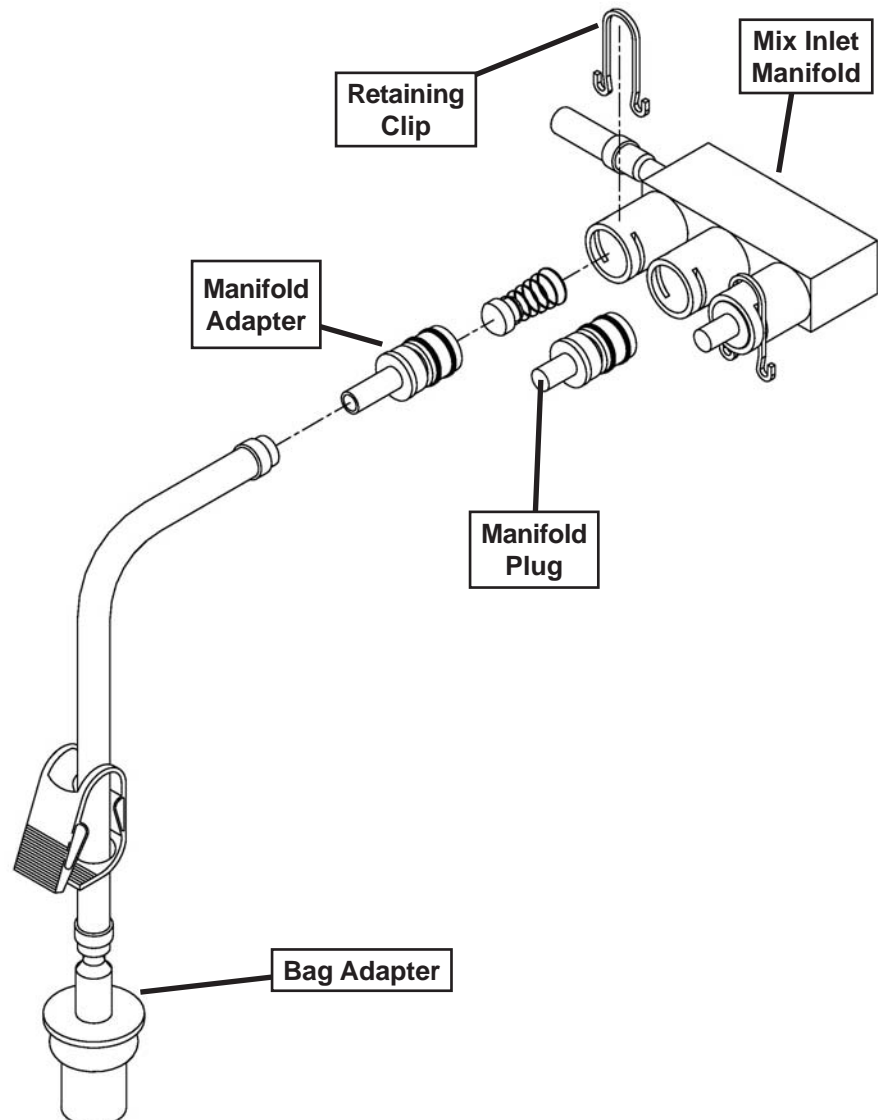

Figure 2-5 Bag Connection System (Optional)
3. Push the manifold adapter with spring and valve into the left port (nearest the manifold outlet) of the mix inlet manifold and secure with a retaining clip. (Fig. 2-5).
3. Push the manifold adapter with spring and valve into the left port (nearest the manifold outlet) of the mix inlet manifold and secure with retaining clip. (See Figure 2-5).